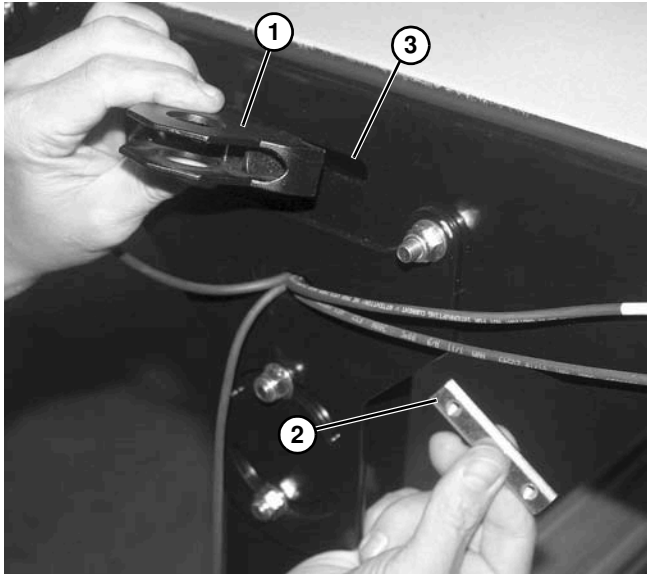

Figure 46
2. Locate position of first adjustable guide mounting bracket (**Figure 46, item 1**), and (from inside conveyor frame) install tee bar (**Figure 46, item 2**) into conveyor frame slot (**Figure 46, item 3**).